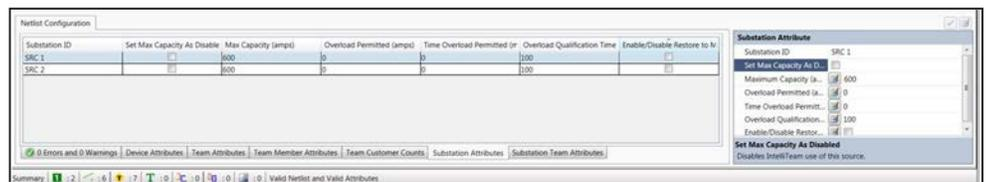

**Figure 78.** The Team Member Attributes tab is used for editing team member settings.
**STEP 4.** Click on the **Team Member Attributes** tab below the configuration dialog box and the Team Member Attribute dialog box will open to the right. Highlight the Team ID entry for the team to configure. See Figure 78.